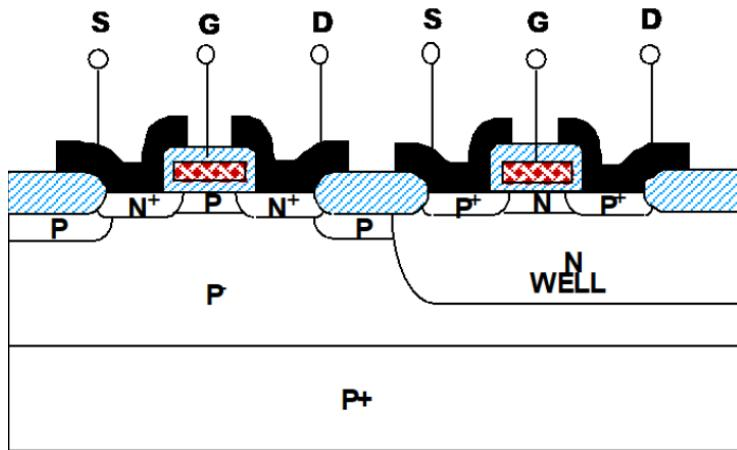

Figure 1: Single Well CMOS process
1. Please draw a process flow for a single well process that uses LOCal Oxidation of Silcion (LOCOS) process for deivce isolation. The final cross section is given in Fig.1